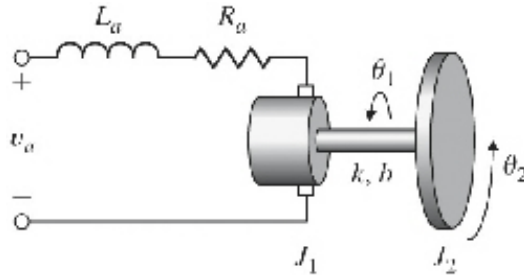

Fig. 2.57 Motor with a flexible load
22. A very typical problem of electromechanical position control is an electric motor driving a load that has one dominant vibration mode. The problem arises in computer-disk-head control, reel-to-reel tape drives, and many other applications. A schematic diagram is sketched in Fig. 2.57. The motor has an electrical constant K_e , a torque constant K_t , an armature inductance L_a , and a resistance R_a . The rotor has an inertia J_1 and a viscous friction B . The load has an inertia J_2 . The two inertias are connected by a shaft with a spring constant k and an equivalent viscous damping b . Write the equations of motion.